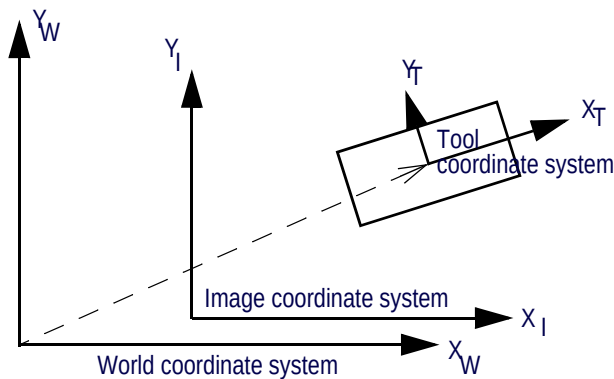

Figure 233 Image-Based Calibrated Mode: Relationship between Tool and World Coordinate Systems
- **Positioning coordinate system:** In the Image-based Calibrated mode, the tool is positioned with respect to the World coordinate system as shown in Figure 233.